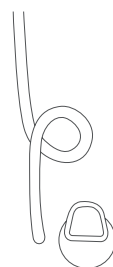

Fig 65 -
1. At the bitter end form a small loop leaving enough rope for the desired loop size (Fig 65).